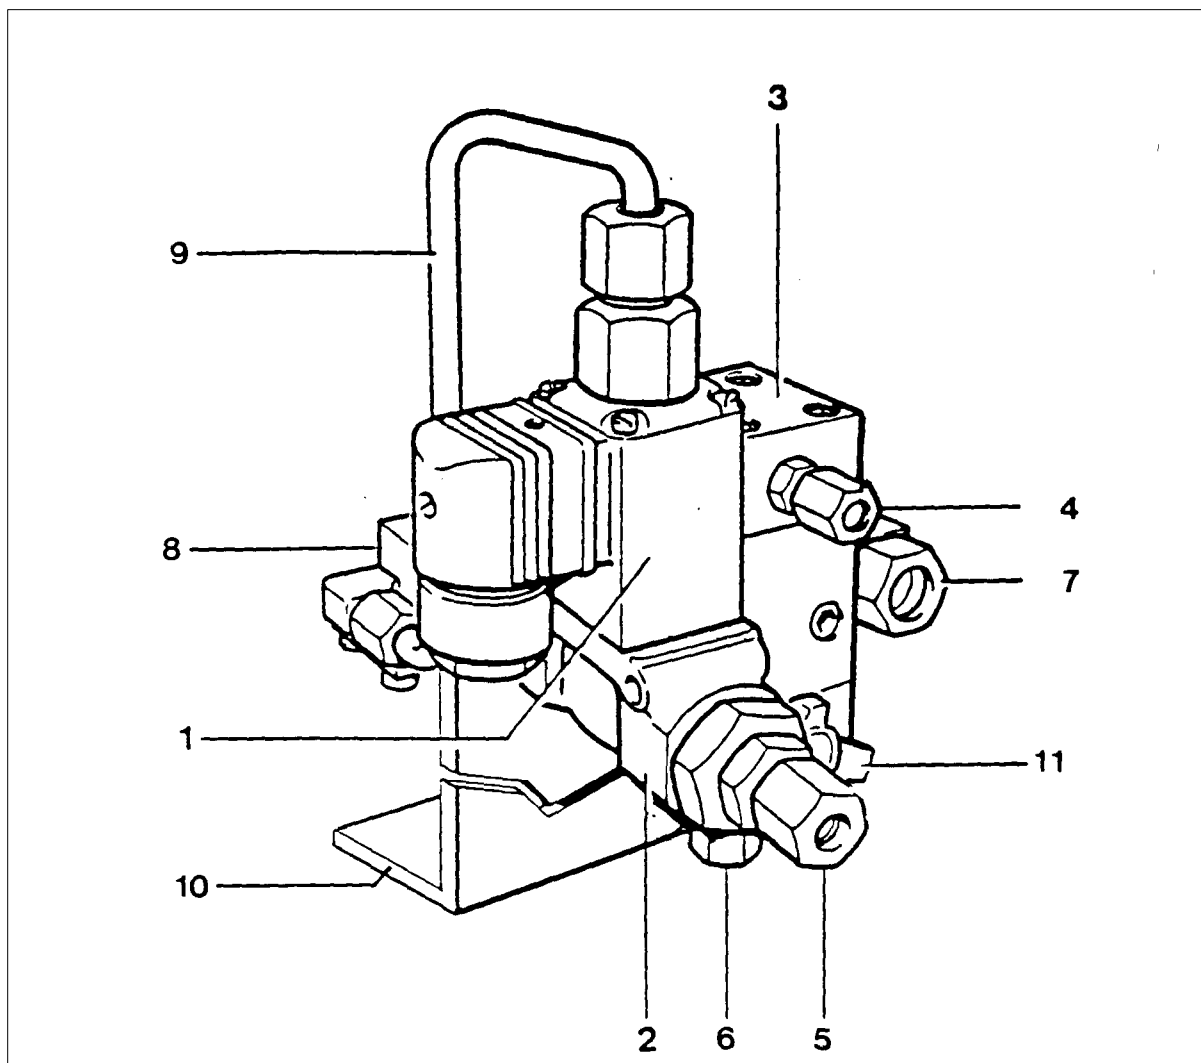

Fig. 21 Automatic condensate drain unit
The automatic condensate drain unit (Fig. 21) drains the intermediate separators and the oil and water separator after the last stage every 15 minutes during operation.
- Open all manual drain valves (11, Fig. 21) one after the other, once a week.